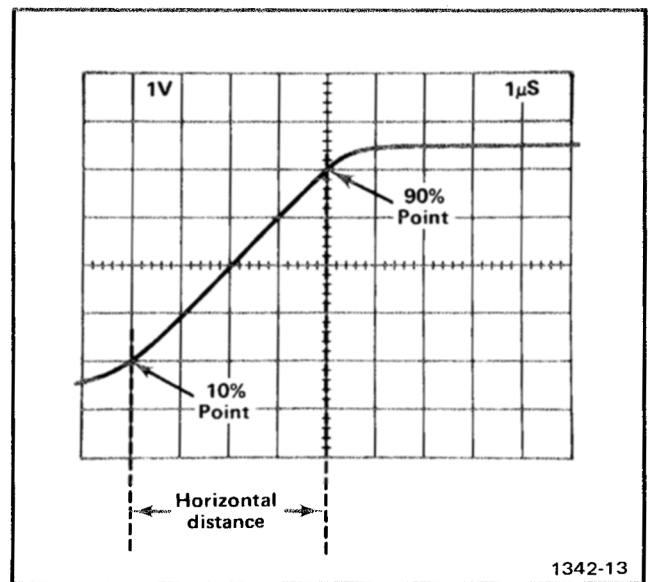

Fig. 2-12. Measuring risetime.
8. Adjust the horizontal POSITION control to move the 10% point of the waveform to the second vertical line of the graticule. For example, with a five-division display as shown in Fig. 2-12, the 10% point is 0.5 division up from the start of the rising portion.
Example. Assume that the horizontal distance between the 10% and 90% points is four divisions (see Fig. 2-12) and the TIME/DIV OR DLY TIME switch is set to 1 μ s. Applying the time duration formula to risetime: